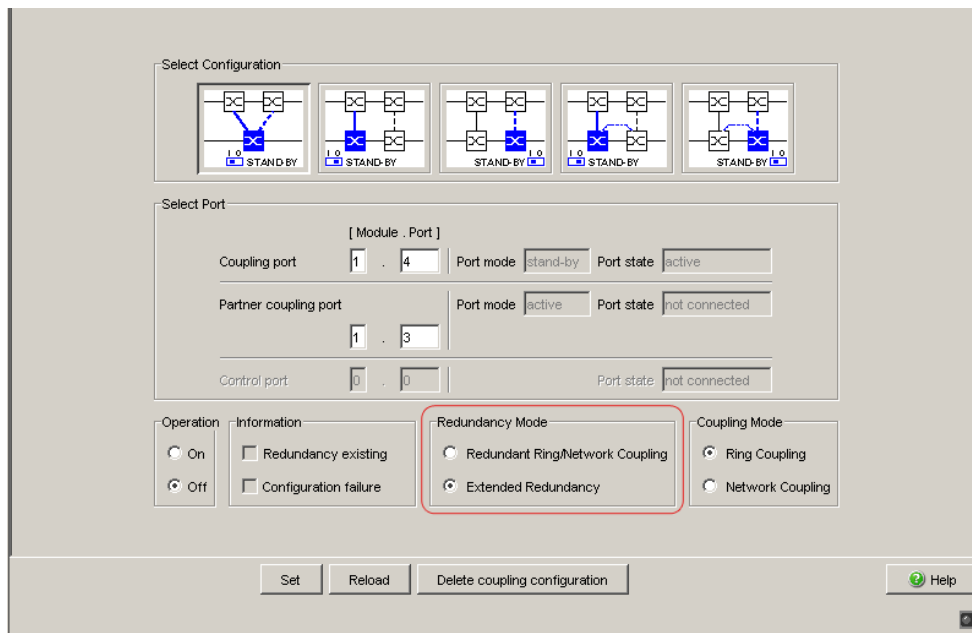

Figure 26: One-Switch coupling: Selecting the redundancy mode
- In the “Redundancy Mode” frame, select (see fig. 26)